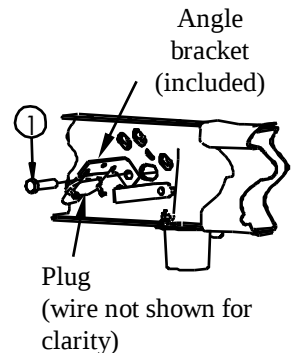

Figure 2c
7. Position the frame brackets with the holes drilled in step 6 and using the frame brackets as a template, drill 1/2” hole through the vehicle frame rail and fasten the frame brackets to the vehicle frame rails as shown in Figure 2. On 2007 “New Body Style” and newer Pickups with OE Brake Controller, refer to installation step 2 to relocate the plug with the angle bracket. Use the 3/4” X 1.50 bolt to attach the angle bracket to the inside of the frame (see Figure 2c).